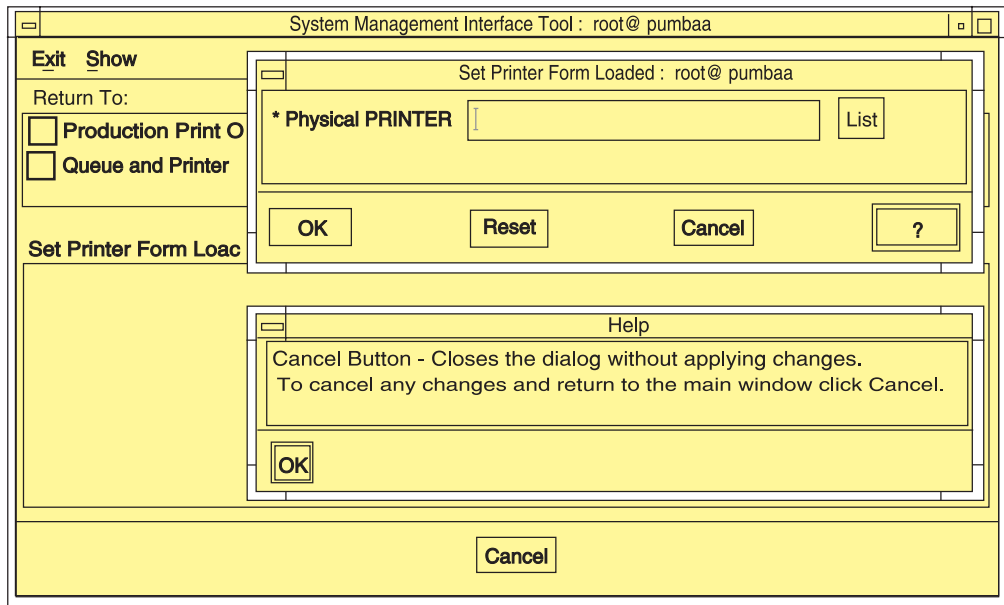

Figure 58. Help for SMIT Window Fields and Buttons
1. Select the button labeled with a question mark at the bottom right of the window. A **Help** window displays beneath the SMIT window. Figure 58 on page 262 shows the results of selecting the question mark button.